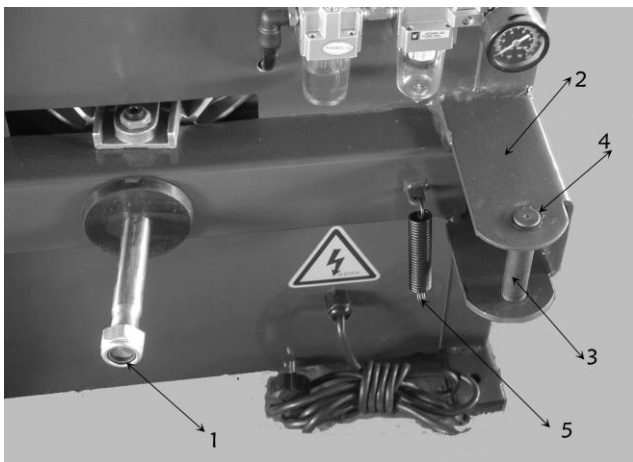

Fig 4-5
4.2.6 Unscrew the lock nut (1) at the front end of the bead breaker cylinder piston rod. Use the spring tongs to remove the retaining ring on the bead breaker arm pin shaft. Remove the pin shaft (3) and hang the spring (5) as shown in Fig 4-5.